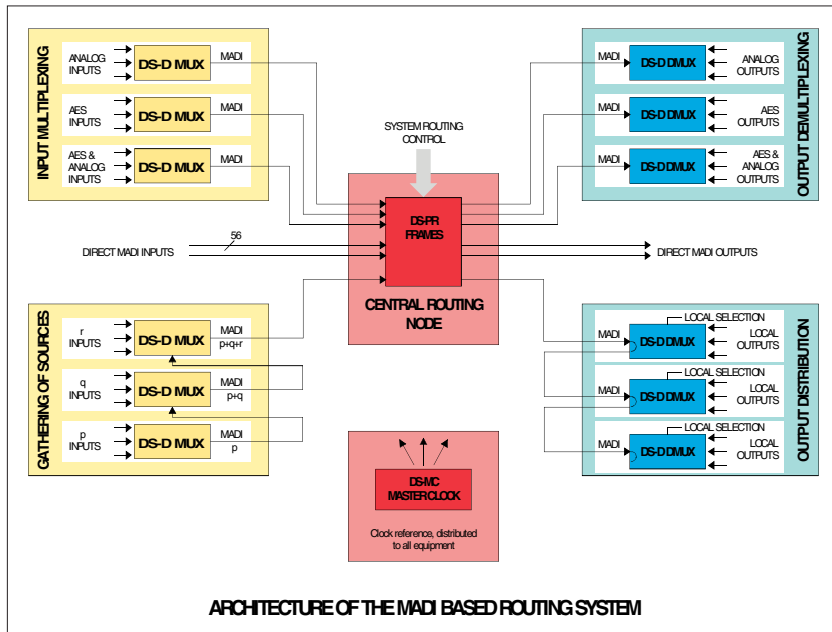

Fig. 3: Block diagram of the MADI-Router
- peripheral components which have the ability to «pack» audio sources into MADI frames (Fig. 3 left hand side) or to distribute a MADI frame to the single audio destinations (Fig. 3 right hand side),
- and a switching node (Fig. 3 center), which receives and sends MADI signals.
It can happen that a studio does not supply enough channels to fill a full MADI frame. The peripheral components are able to accept partially filled MADI frames, to fill it up with their own input signals, and to resend it (Fig. 3 left bottom). This process can be daisy-chained until all subframes of a MADI signal are set valid (i. e. contain useful data).
Vice versa the system works also at the audio sinks (Fig. 3 right bottom).